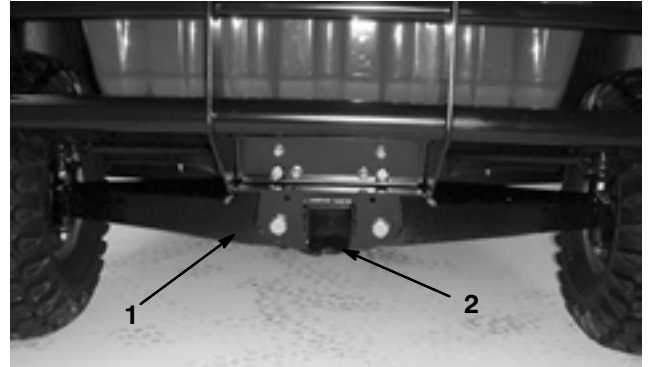

Figure 1
1. Jack front of the vehicle on the front of the frame and behind the towing tongue (Fig. 1).
1. Secure front of the vehicle to trailer at the towing tongue (Fig. 1).
3. Secure a chain or tow line to tongue on front frame member (Fig. 1).